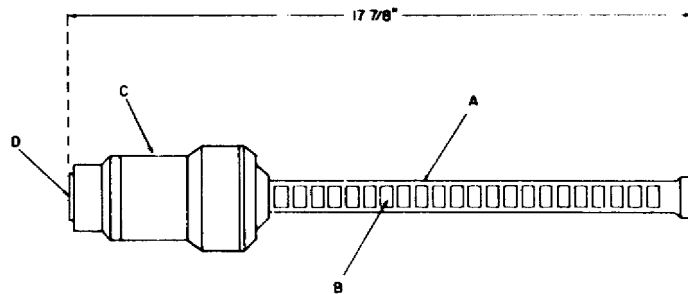

Figure 3-10. Basic components of the Electro-Voice Model 642
b. Figure 3-10 shows the basic components of this microphone. In-line tube (A) has a 1/8-inch slot milled its entire length and a group of ports which act as a linear tapering acoustic resistance. In-line tubes are equally sensitive to equal sound pressures, and will cause equal voltages to be generated at the output of the dynamic transducer unit (C).